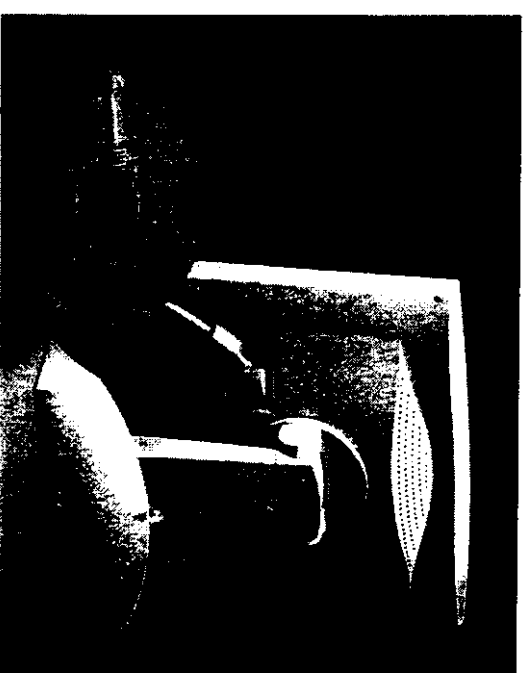

Figure 3 : Connecting the Signal Cable
- Connect the other end of the signal cable to your LCD Monitor as shown in Figure 3.